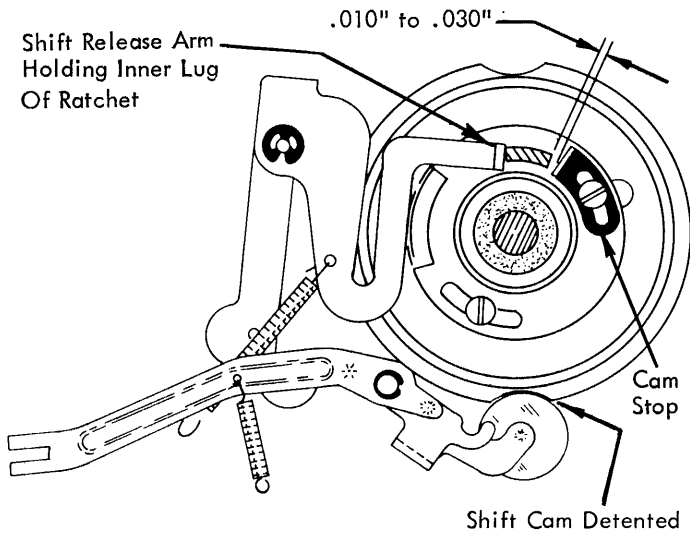

FIGURE 68. Shift Cam Stop Adjustment
3. Shift Cam Stop - Adjust the stop so that the shift clutch ratchet has $.010''$ to $.030''$ rotary motion between the shift cam stop and the shift release arm with the mechanism at rest (Fig. 68).